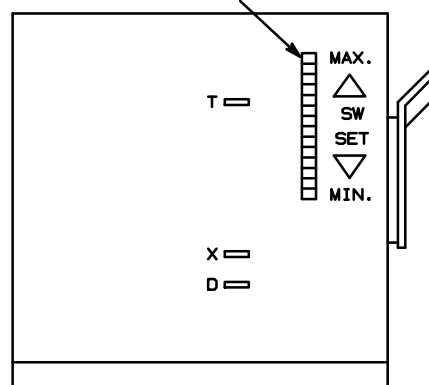

FIGURE 24
- 7- If fresh air percentage is less than desired, adjust thumbwheel higher. If fresh air percentage is more than desired, adjust thumbwheel lower. Repeat steps until calculation reads desired fresh air percentage. See figure 24.
Set damper minimum position in the same manner as economizer minimum position. Adjust motorized damper position using the thumbwheel on the damper motor. See figure 24. Manual damper fresh air intake percentage can be determined in the same manner.